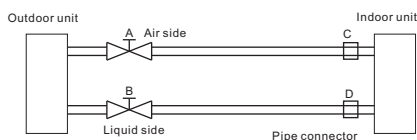

Fig 20
■ If the connection pipe is no more than 5 meters, use refrigerant in outdoor unit to exhaust the air(50-100 g refrigerant is charged for emptying the pipe before the outdoor unit is delivered, refer to Fig 20).
- ① Screw down the nuts at A, B, C, D joint completely.
- ② Turn on the nut of the Valve B with the hexagon wrench and then turn the valve core 45° anti-clockwisely for 10 seconds with the inner-hexagon wrench, then tighten the union A.
- ③ Have the leak test at A, B, C, D joint and then press the core of Valve A to exhaust the air for 20 seconds and then screw down the service valve.
- ④ Open Check valve B and A completely with the inner-hexagon wrench, then tighten nuts of them.